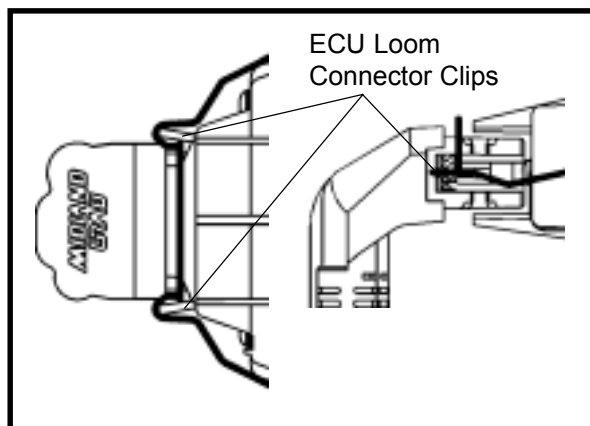

Fig 4.6 BAIL LATCH AND LOOM CLAMP POSITIONING
4. To test sensors connect the multimeter across contact pins in the main loom connector as detailed in section 4.0, Fig 4.6, 4.7 and 4.8. The meter should show a full scale deflection.
c: Ensure bail latch and loom clamp are fixed in position see Fig. 4.6.